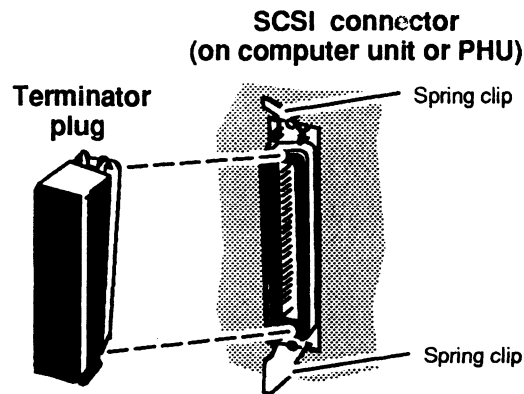

Figure 2-20 Unplugging and Plugging in the SCSI Bus Terminator Plug
2. Release the spring clips on each side of the terminator plug as shown in Figure 2-20, and unplug the terminator plug from the SCSI bus connector.